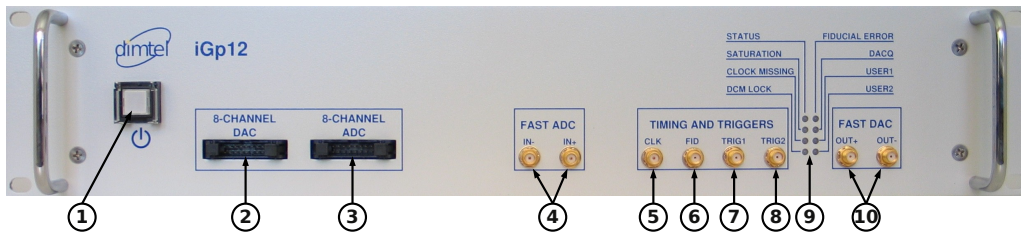

Figure 2: Front panel features
2. Connect RF clock at  $-3$  dBm nominal level (Fig. 2, item 5);
3. Connect single-ended high-speed ADC input signal to **Ain+** (Fig. 2, item 4). The FS swing of this signal should be 780 mV peak-to-peak;
4. Connect a  $50\ \Omega$  terminator to **Ain-** (Fig. 2, item 4);
5. Connect high-speed DAC output(s) (Fig. 2, item 10) to the appropriate back-end unit;
9. Push the power button (Fig 2, item 1) to turn on the system;
11. Push the power button (Fig 2, item 1) to turn the system off;